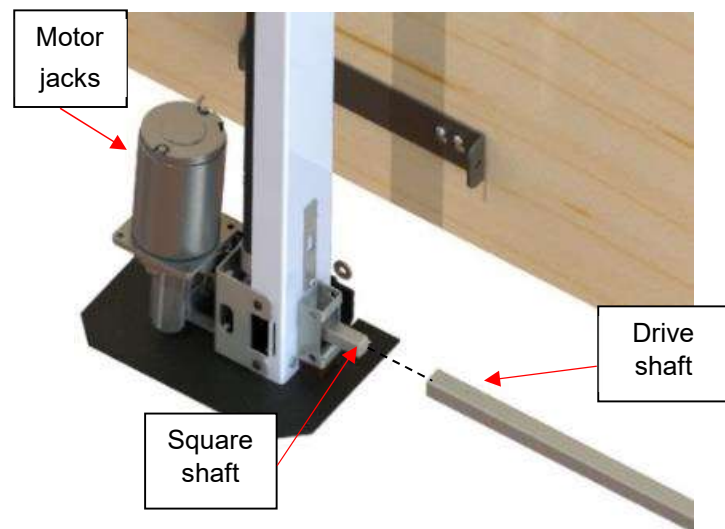

Figure 93
- 5) Slide the drive shaft over the square shaft of one motor-side jack (Figure 93)